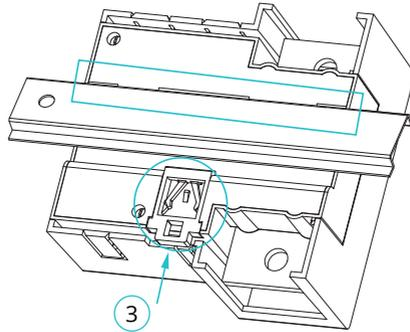

Figure 2-4 Insert Clip Lock to Secure the AcuDC 300
- Release the clip lock back up ③ to secure the AcuDC 300 onto the DIN rail, as illustrated in Figure 2-4.